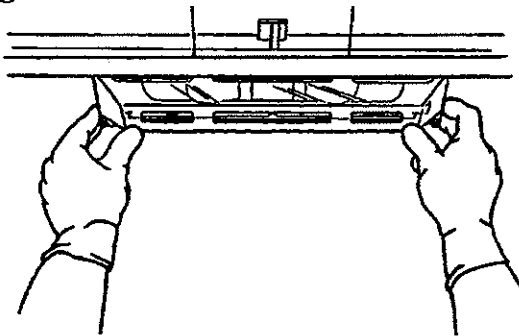

Figure 85
- Remove bulb cover by pressing toward center on each rear corner to release from screws. See Figure 85.